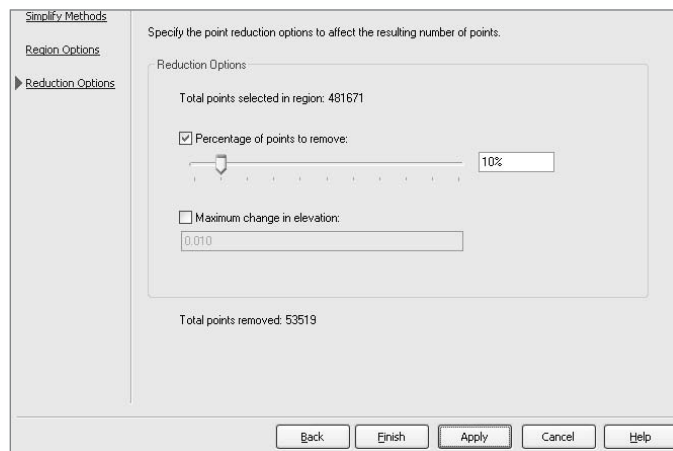

Figure A.41
7. Click Apply. The program will process this calculation and display a Total Points Removed number as shown in Figure A.41. You can adjust the slider or toggle on the Maximum Change in Elevation button to experiment with different values.